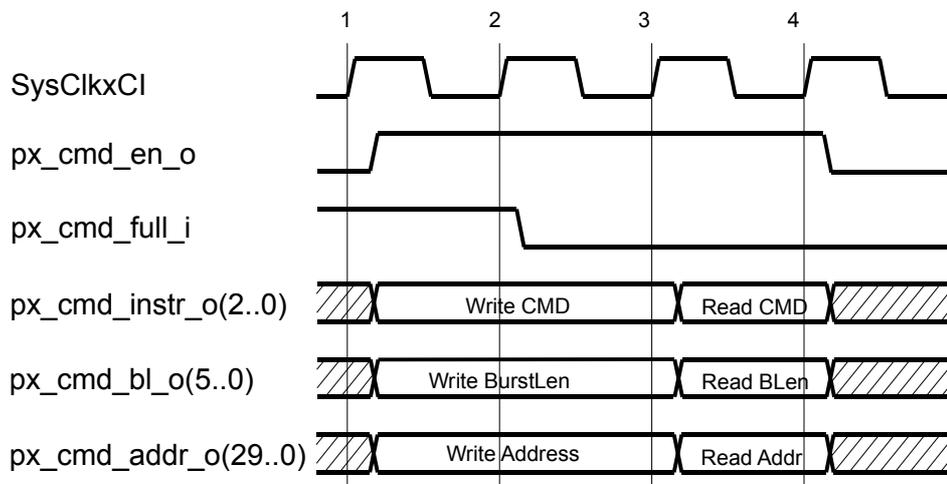

Figure 8: MemoryBus Command Cycle
Figure 8 shows a timing diagram of valid MemoryBus command cycles. At the rising clock edge of **SysClkxCI** (1) the Custom Module issues a Write Command by asserting **px\_cmd\_en\_o = '1'** and by setting **px\_cmd\_instr\_o(2..0) = "000"**. At the same time **px\_cmd\_bl\_o(5..0)** and **px\_cmd\_addr\_o(29..0)** are set to appropriate values.
The MCB indicates at clock edge (2) that it is not ready to accept new commands (**px\_cmd\_full\_i = '1'**) which forces the Custom Module to hold the command for another clock cycle. At clock edge (3) the write command transfer succeeds since **px\_cmd\_en\_o = '1'** and **px\_cmd\_full\_i = '0'**. The Custom Module is now free to remove the command from the MemoryBus Command Port or to issue a new command. In Figure 8 the Write Command is followed by a Read Command at clock edge (3). Since **px\_cmd\_full\_i** is still '0' at clock edge (4) the read command succeeds immediately and **px\_cmd\_en\_o** is de-asserted by the Custom Module as there are no further commands pending at the time.